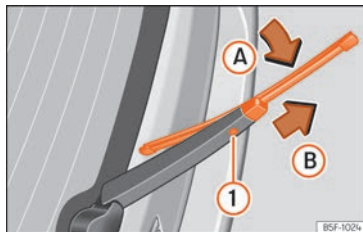

Fig. 190 Changing the rear wiper blade
- Rotate the blade lightly >>> Fig. 190 (arrow A).
- Hold down the release button ① while gently pulling the blade in the direction of arrow B.
- Insert a new blade of the **same length and type** in the rear wiper arm in the opposite direction to the arrow B until button ① hooks into place.